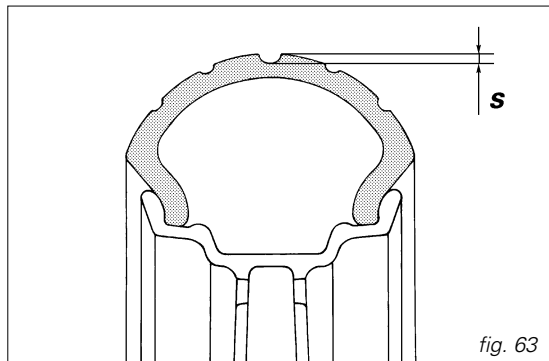

fig. 63
*Measure tread depth (S, fig. 63) at the point where tread is most worn. It should not be less than **2 mm** and anyway not below the legal limit.*